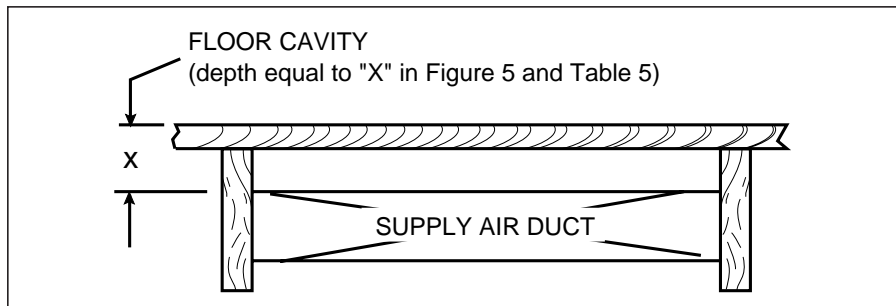

Figure 3.
- Determine depth of floor cavity from surface of floor to top of supply air duct (See Figure 3).